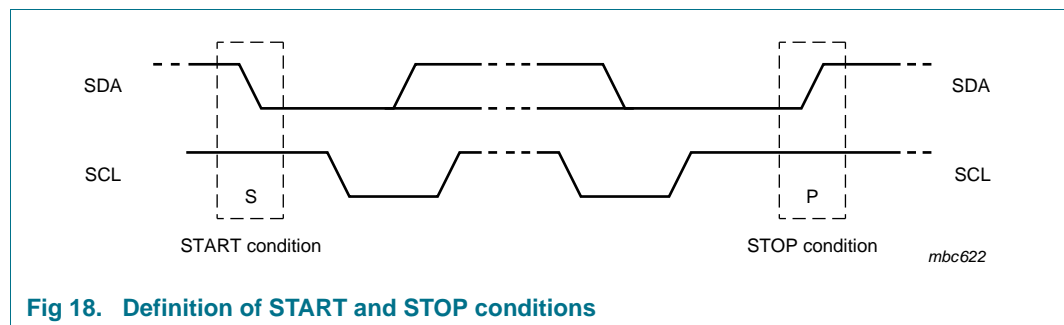

Fig 18. Definition of START and STOP conditions
Both data and clock lines remain HIGH when the bus is not busy. A HIGH-to-LOW change of the data line, while the clock is HIGH is defined as the START condition (S). A LOW-to-HIGH change of the data line while the clock is HIGH is defined as the STOP condition (P). The START and STOP conditions are shown in Figure 18.